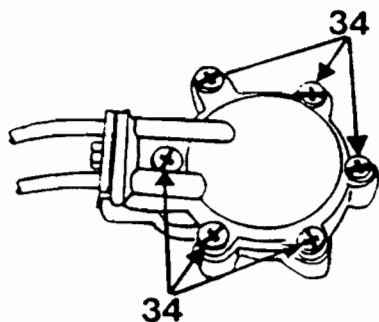

FIG. 11
Remove screws at (34) Fig. 11. (Mersey 6 screws, Medway 8 screws).